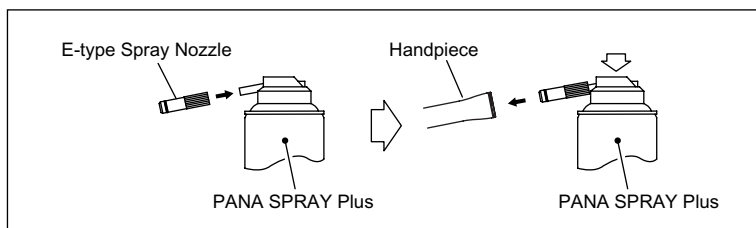

Fig. 6
■ Manual lubrication (Fig. 6)
- ① Push E-type spray nozzle attachment over the PANA SPRAY nozzle until it firmly seats.
- ② Shake the can 3-4 times to well mix lubricant and propellant.
- ③ Insert the E-type spray nozzle in the rear of the handpiece and spray for approximately 2-3 seconds until the oil comes out of the handpiece head.